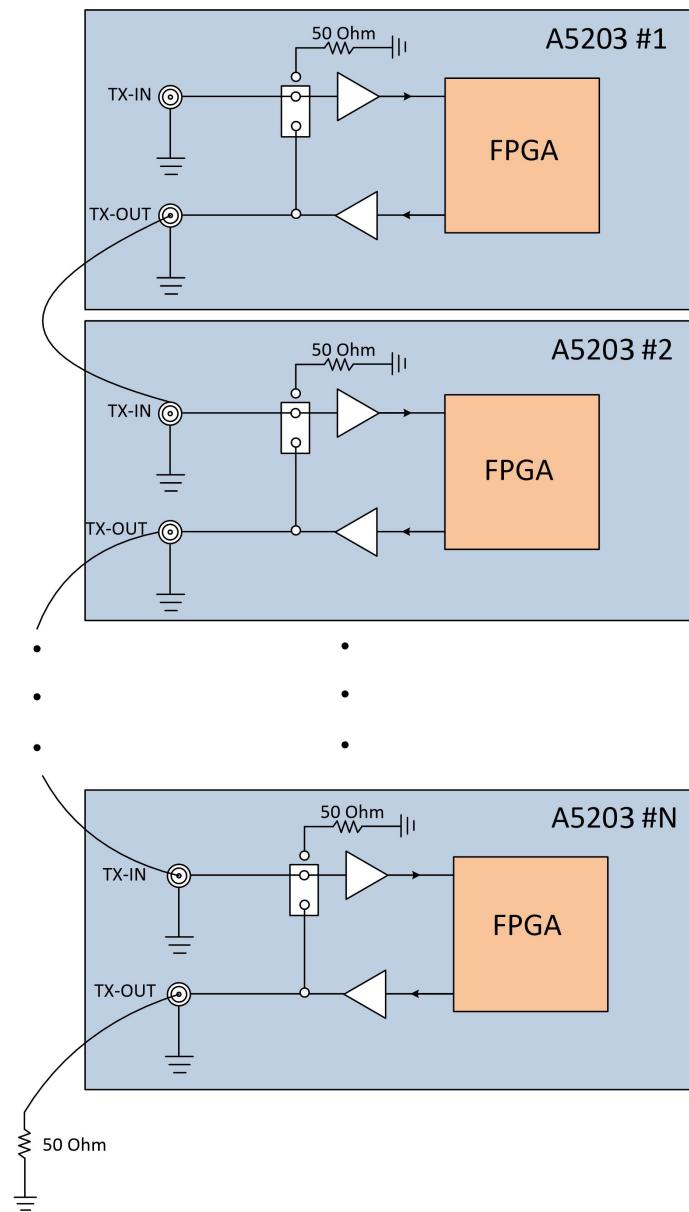

Fig. 9.11: Schematic diagram of a wired-OR connection.
By performing slight changes to the system presented in Sec. 9.4.4, the user can also create a wired-OR connection between all boards composing the FERS-5200 system. In Fig. 9.11, a schematic overview of a system composed of N A5203 units with the connection necessary to perform a wired-OR of the TX-IN/TX-OUT connectors is presented.
- Create a daisy chain connection as in Fig. 9.11.